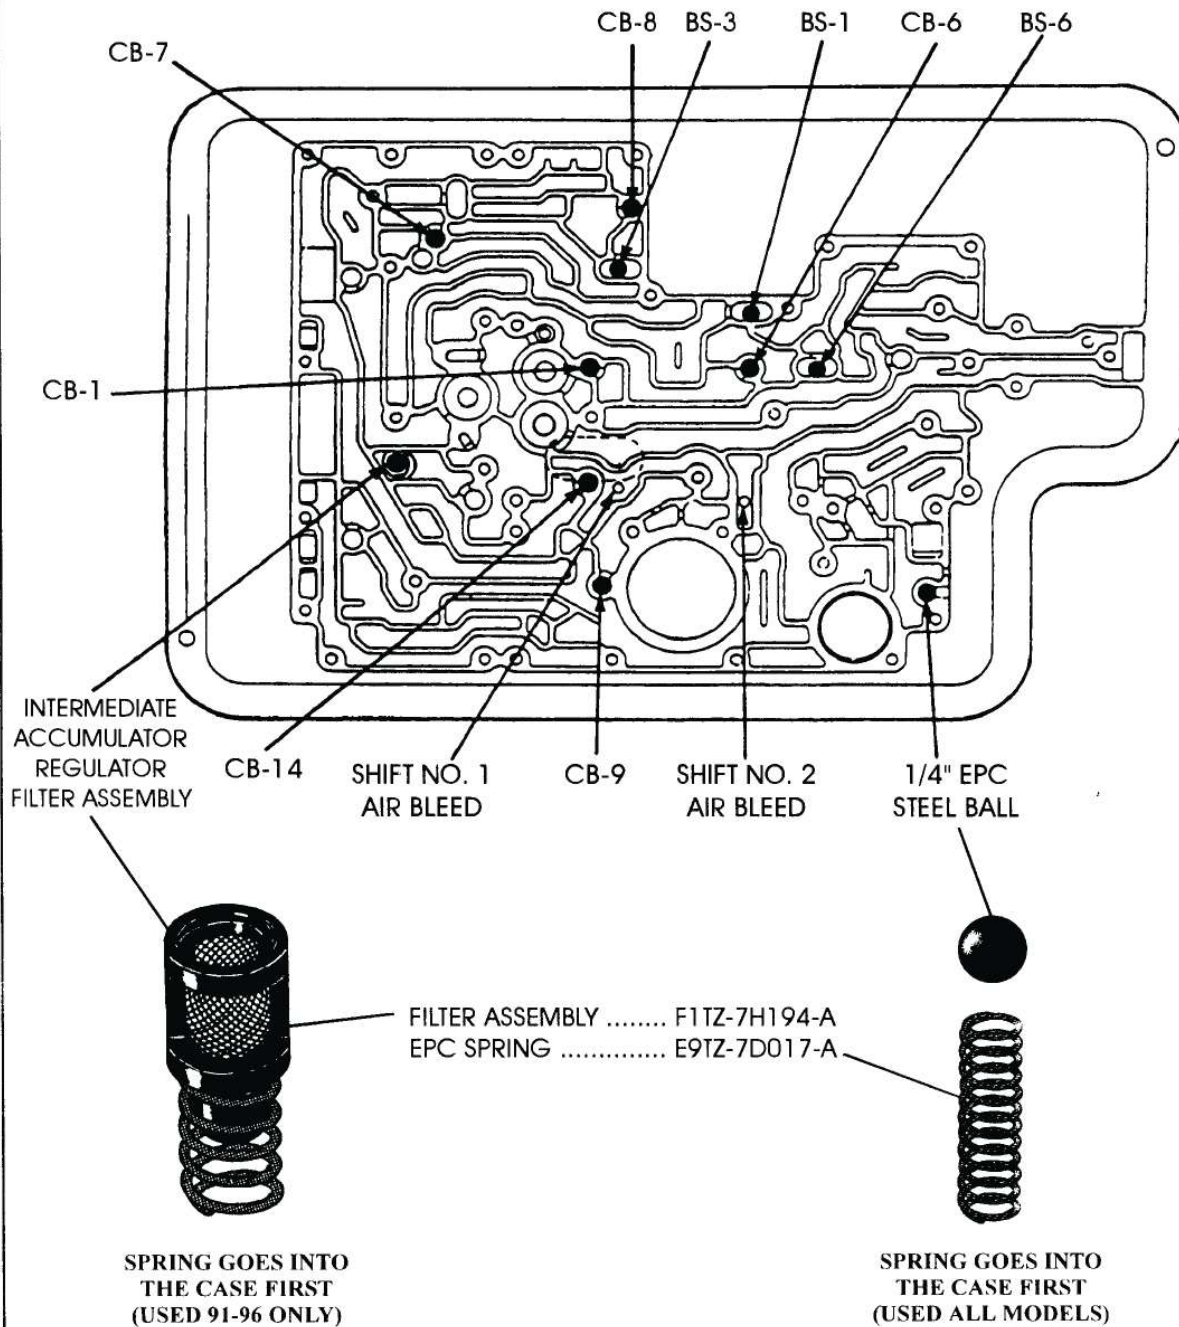

Figure 5
- All 1990-1995 Models** - Requires **Nine** 5/16" rubber checkballs in the case, in the locations shown in Figure 5, and uses a 1/4" steel ball for the EPC blow-off, and the location is shown in Figure 5. Beginning in 1991 there is an added Intermediate Accumulator Regulator Filter Assembly, and the location in the case is shown in Figure 5.